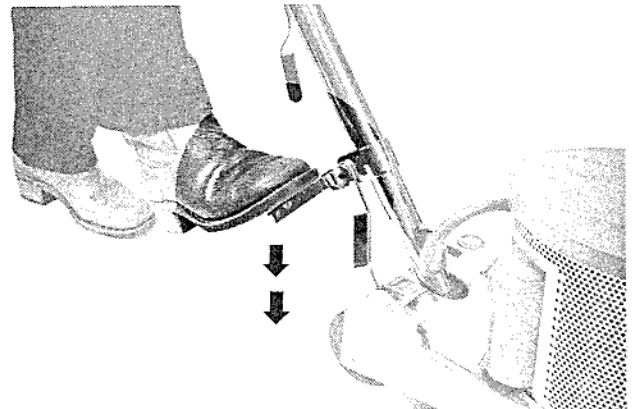

Figure 15
3. Lock the handle in the best position for operation. See figure 15.